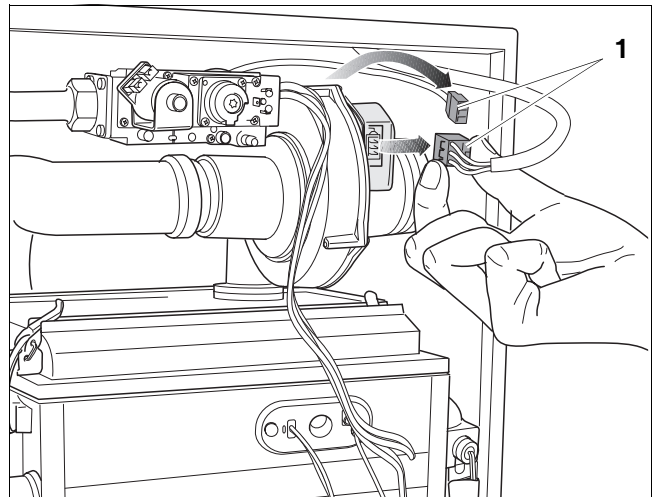

fig. 4 Removing the connectors from the fan
- Pull both plugs from the fan unit (fig. 4, **pos. 1**).